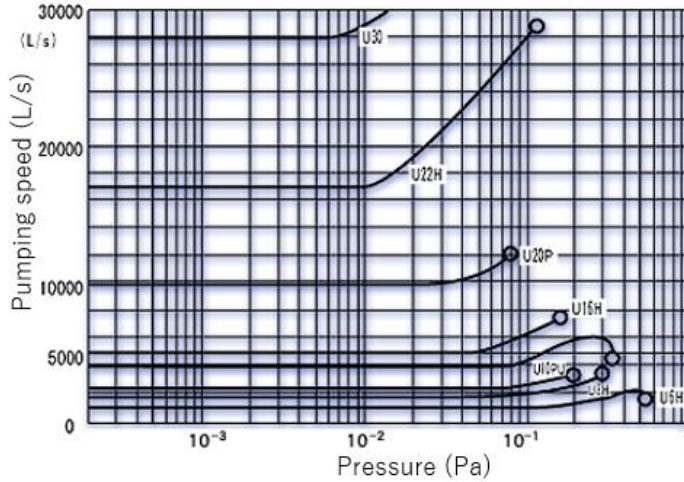

Figure 1. CRYO-U Pumping Speed for Nitrogen
A cryopump is vacuum pump that traps gases and vapors by condensing them on a cold surface. For efficient evacuation under ultra-high vacuum, the vapor pressure for condensation, or the equilibrium pressure for adsorption must be less than 10^{-8} Pa. **Figure 1** shows vapor pressures of different gases.
As you see in Fig.1, the vapor pressure of water vapor becomes below 10^{-8} Pa at temperature of below 130K, and thus water vapor is pumped as a result of condensation on the 80K baffle and 80K shield. The next group of gases, nitrogen, oxygen, argon, and other gases of similar molecular weight are pumped at the exposed surface of 15K cryopanel(1) at the second stage, which is kept below 20K. The third group, mainly hydrogen, helium, and neon will not condense at 20K and will not be pumped efficiently by the metal surface because the equilibrium vapor pressure for cryosorption will be too high. To improve this situation, cryopumps have adsorbent of porous materials such as charcoal on the 2nd stage cryoarrays. The adsorbent is bonded to the inner surface of the 15K cryopanel(1) to prevent it from being covered with condensable gases. Outside surface of 80K shield, 80K baffle, and 15K cryopanel(1) are specular finished in order to reflect radiant heat from room temperature. The inner surface of 80K shield is blackened to reduce the radiation heat transfer to the 15K cryopanel attached to the 2nd stage. In order that a cryopump to operate properly, both 80K shield and 80K baffle should be kept below 130K and 15K cryopanel to be kept below 20K.